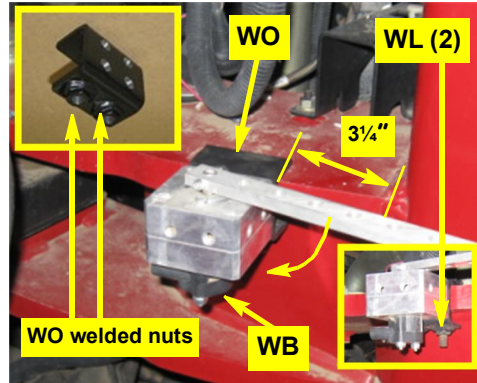

Figure 2b: WAS assembly installed
- b. Using hardware **WJ** (not visible), attach the WAS assembly from step 1 to bracket **WO** as follows (Figure 2b):
- Have bracket **WO**'s welded nuts at the bottom (Figure 2b inset)
- c. Apply threadlocker **WM** to the cone point Allen set screws **WL** and attach bracket **WO**, WAS assembly attached, to the back lip of the top frame brace. The right edge of **WO** must be $3\frac{1}{4}$ " from the nearest end of the frame brace (Figure 2b).